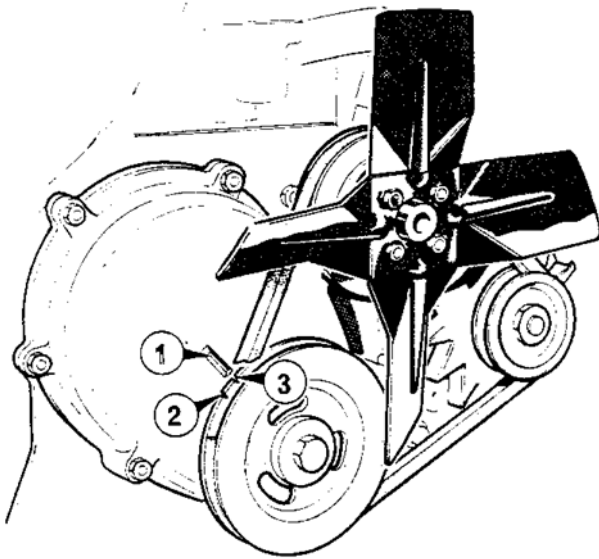

Figure 4 Timing marks
Incorrect ignition timing can cause rough running, poor idling, excessive fuel consumption and poor performance. In extreme cases engine damage can result. It is, therefore, vital that it should be correctly set. In order to facilitate this, two marks are stamped on to the crankshaft pulley face (**Figure 4**).
1. Rotate the crankshaft in a clockwise direction until the 10° pulley mark is aligned with the pointer on the timing cover (**Figure 4**).
1. Rotate the crankshaft in a clockwise direction until the TDC pulley mark is aligned with the pointer on the timing cover (**Figure 4**).